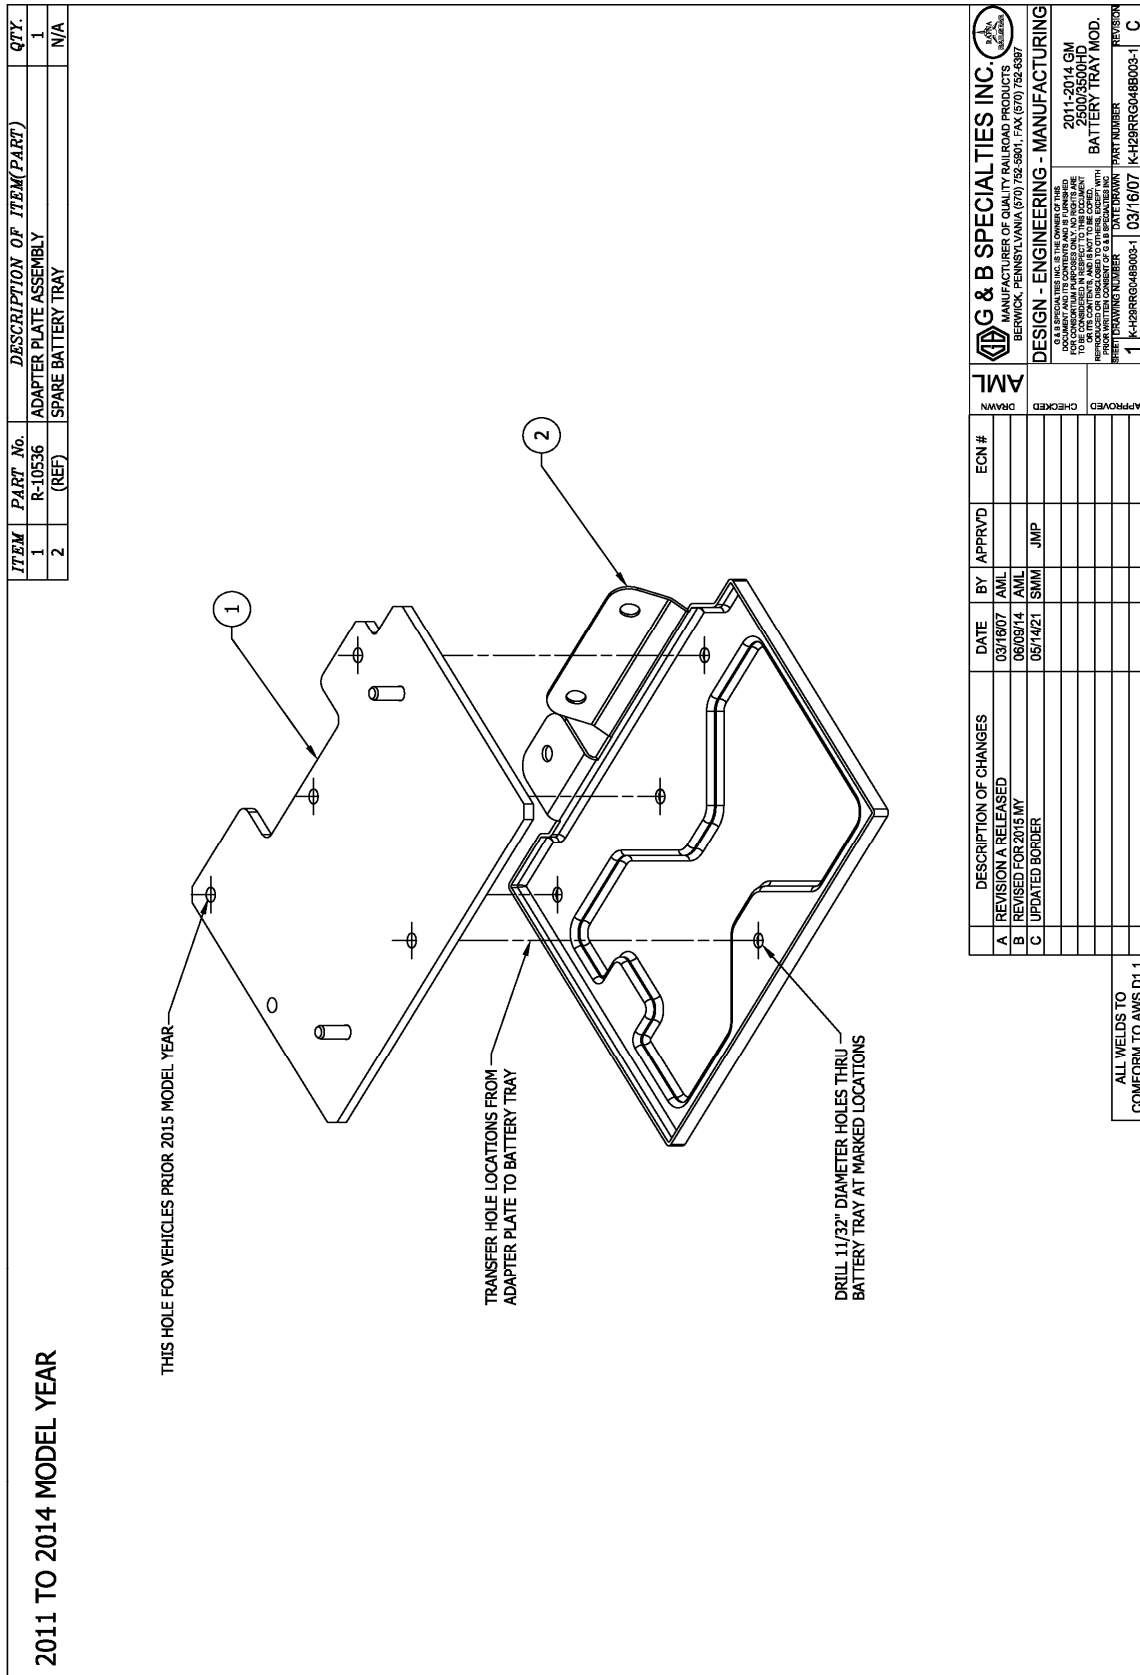
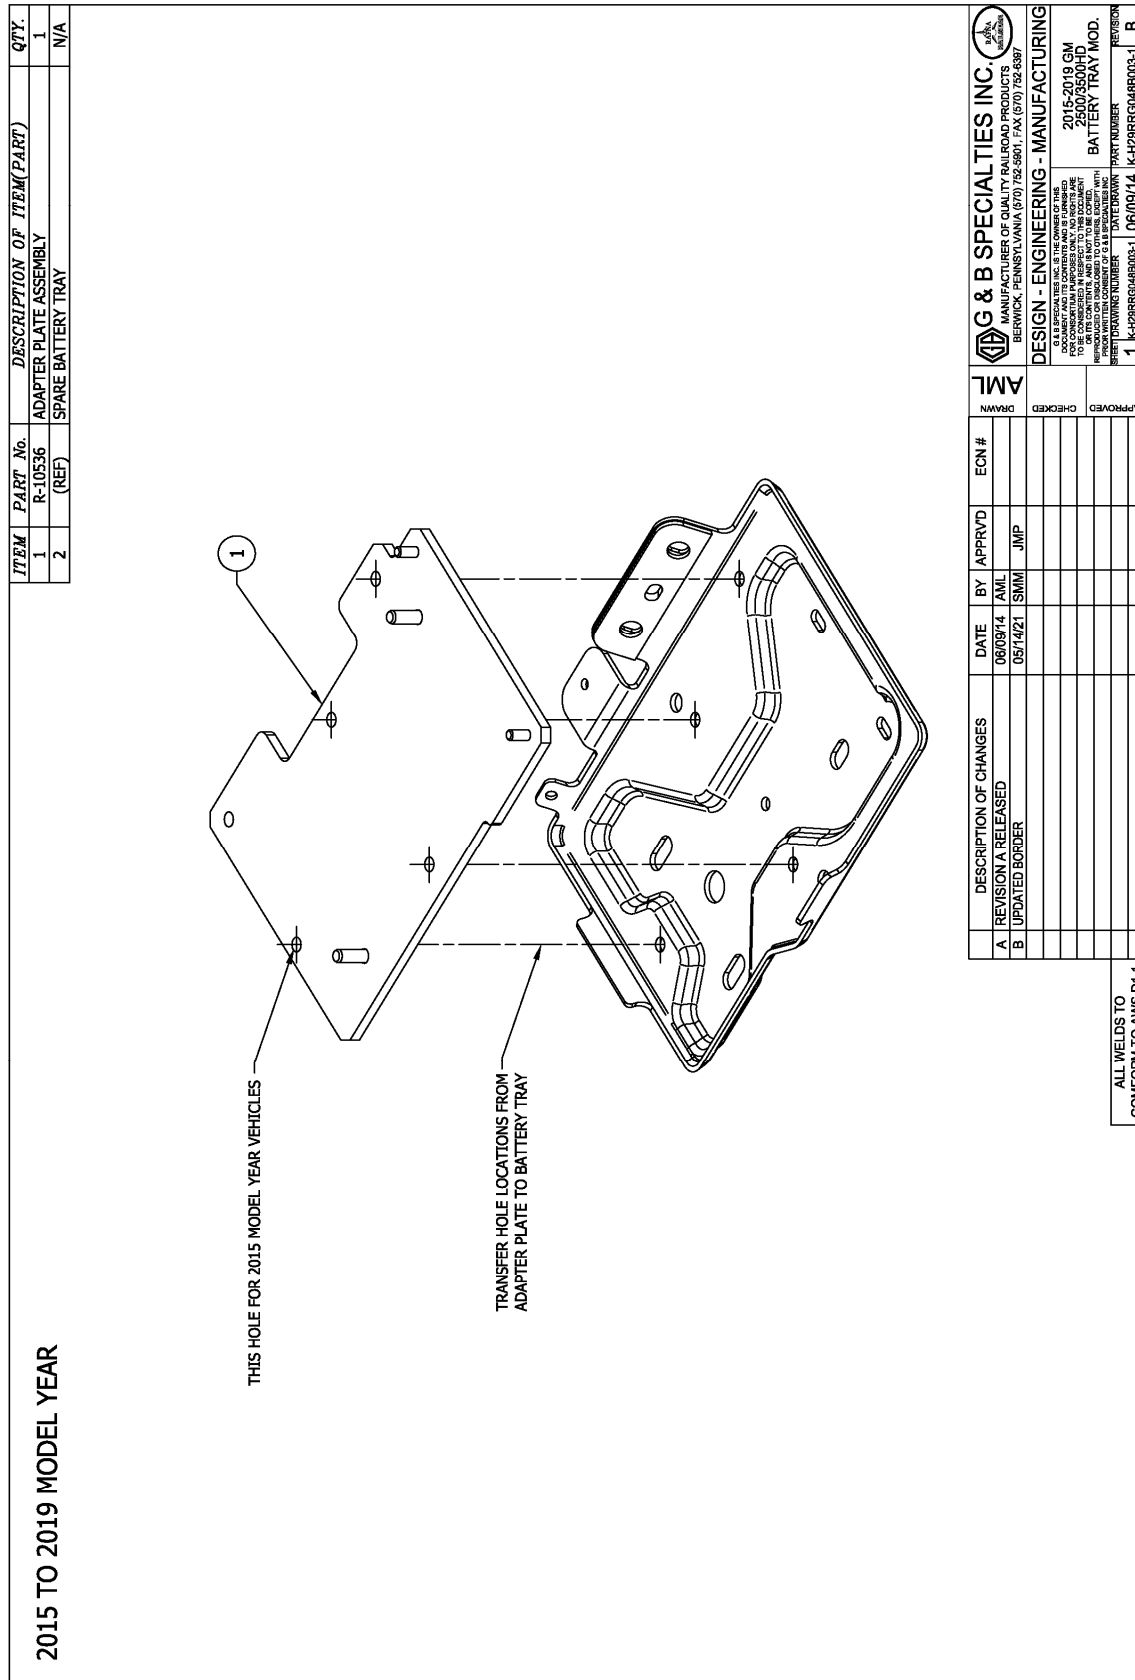

Figure 2 (2011 TO 2014 MODEL YEAR)
Figure 2A (2015 TO 2019 MODEL YEAR)
2. Place the battery tray adapter plate into spare battery tray and mark hole locations from the adapter plate onto the battery tray. (Figure 2 (Figure 2a for 2015-2019))
3. Drill (4) 11/32" diameter holes, thru the spare battery tray, that were marked in the previous step. (Figure 2 (Figure 2a for 2015-2019))